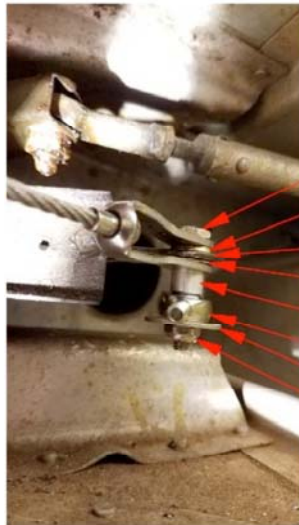

Figure 2-4
- (1) Remove existing bolt connecting the aileron control cable to the aileron bellcrank
- (2) Enlarge the hole in the bellcrank where the aileron control cable was attached using a .257" (F size) drill bit.
- (3) Place the steel bushing (P/N 2510-202) in the .257" hole and reconnect the aileron control cable as shown in Figure 2-4. Torque AN3-13A bolt to 20-25 in-lb.